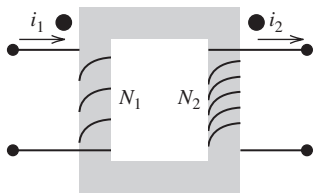

FIGURE P12.26 Mutual induction.
12.26 (H) The mutual inductance between the coils shown in Figure P12.26 is denoted by M . Prove that $M = N_1 N_2 / \mathfrak{R}$, where N_1 and N_2 are the number of turns of the primary and secondary coils, respectively, and \mathfrak{R} is the magnetic reluctance of the core.